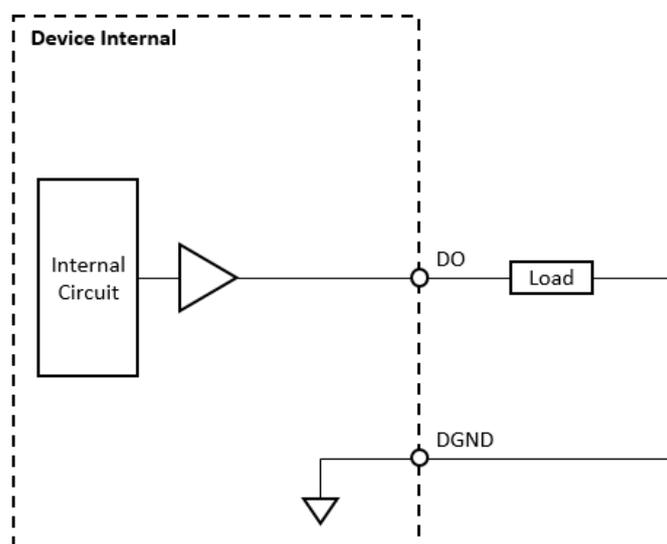

Figure 2.8 Digital output signal connection.
A digital input/output (DI/O) channel can be configured by software to perform digital input measurement, which is the power-on default configuration, or digital output generation. When performing digital output generation, a voltage logic level is generated between the digital output (DO) terminal and the digital ground (DGND) terminal. This is shown in Figure 2.8.